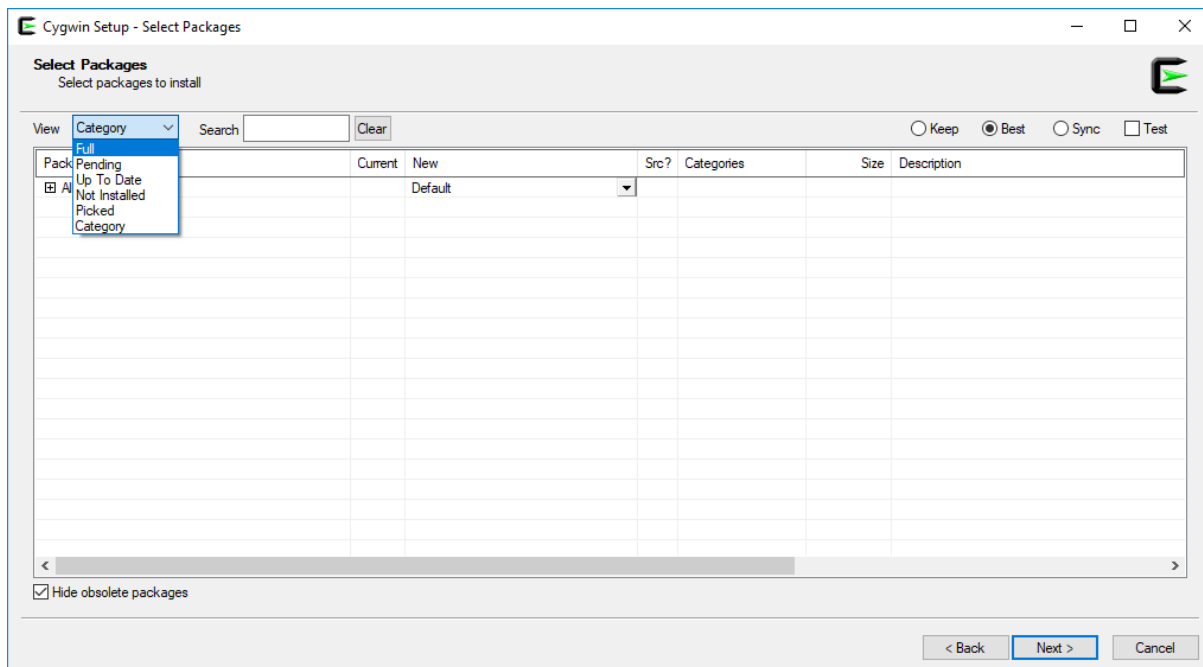

**Figure 102. Cygwin installation window**
2. Execute the setup file in your machine by double-clicking on it (Figure 102). Click **Next** several times, maintaining the default options. The installer will ask you to **Choose a Download Site** (Figure 103), you can choose any one of them.